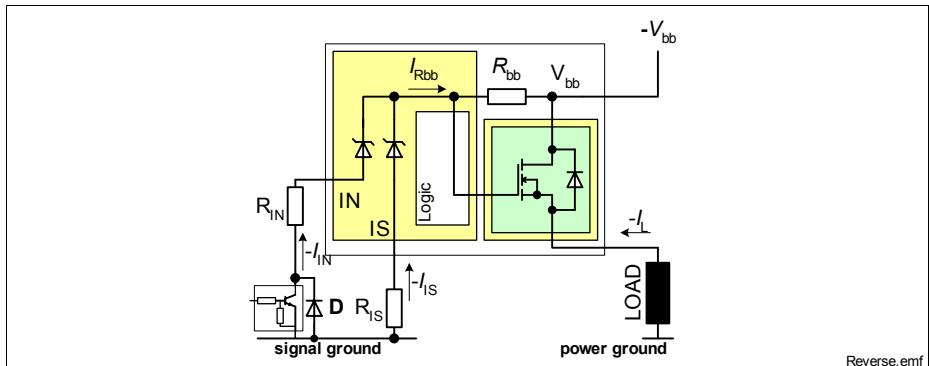

Figure 14 Reverse battery protection
- 3) Slew rate limitation can be achieved by means of using a series resistor for the small signal driver or in series in the input path. A series resistor R_{IN} in the input path is also required for reverse operation at $V_{bb} \leq -16\text{V}$. See also Figure 14.
The device can not block a current flow in reverse battery condition. In order to minimize power dissipation, the device offers Reversave™ functionality. In reverse polarity condition the channel will be switched on provided a sufficient gate to source voltage is generated $V_{GS} \approx V_{Rbb}$. Please refer to **Figure 14** for details.